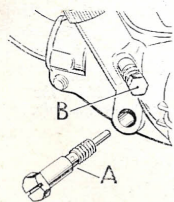

FIG. 11.
Throttle Cable:—Adjustment should be such that when the throttle is closed there is a trace of slackness in the cable. The engine should still run slowly, but if not, screw the adjuster (B) Fig. 11, in or out by a quarter of a turn at a time, until this condition is achieved. This may require further cable readjustment.
Carburettor Jet:—The jet (A) Fig. 11, is readily accessible for cleaning in the event of blockage and consequent fuel starvation, and its removal does not necessitate dismantling the carburettor. Unscrew the jet with a suitable spanner and blow through the orifice until it is certain that it is clear of any obstruction. Make sure that the obstruction has not been transferred to the smaller side holes. Do not use any sharp implement for cleaning purposes and do not over-tighten when replacing.